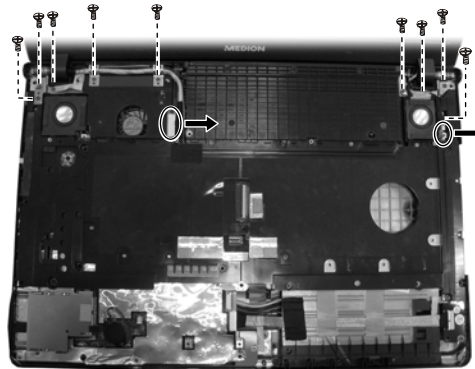

Figure 2-15 Free the LCD assembly
4. Remove nine screws and carefully pull the antenna wire and two cables out. Then free the LCD assembly. (Figure 2-15)